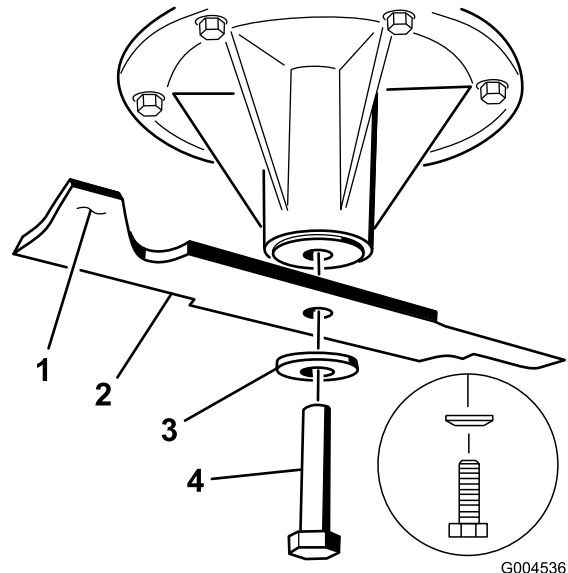

Figure 76
2. Remove the blade bolt, curved washer, and blade from the spindle shaft (Figure 76).